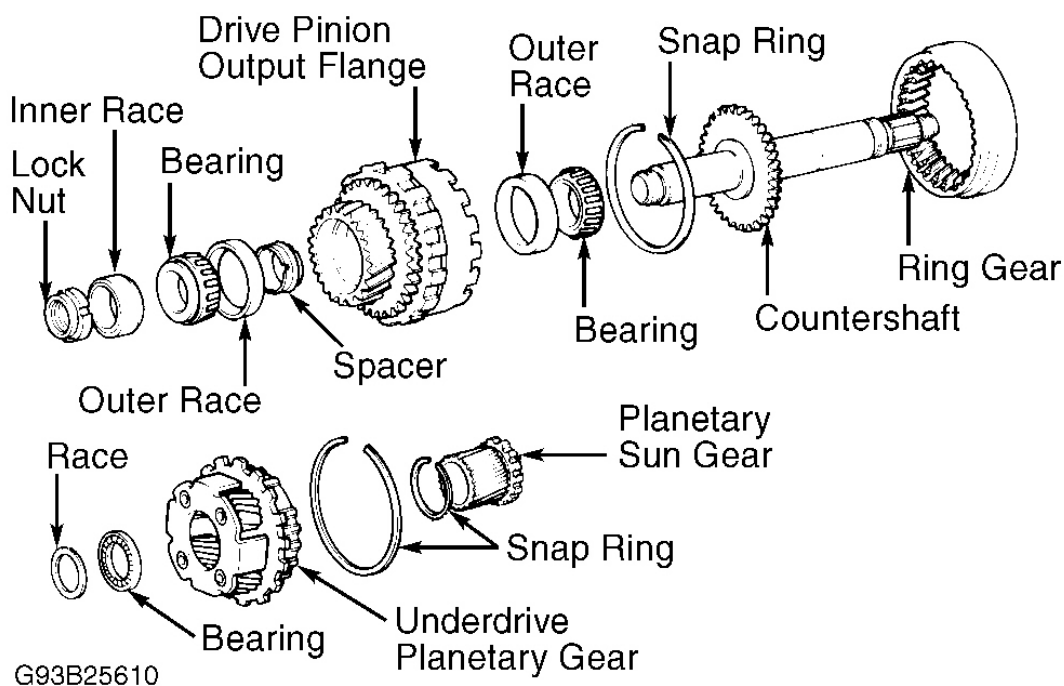

Fig. 37: Exploded View Of Countershaft Assembly
1. Remove planetary sun gear from countershaft. Remove snap ring from sun gear and countershaft assembly. Remove underdrive planetary gear, thrust bearing and race. See **Fig. 37**.
1. Using Bearing Installer (09351-32180) and Adapter (09351-32150), press bearing of thick inner race on countershaft. Install ring gear and snap ring to countershaft. Install bearing outer races to drive pinion. Using Adapters (09351-32090 and 09351-32180) and press, press thick bearing race into flange side of drive pinion. Using adapters, press thin bearing race on remaining side of drive pinion. See **Fig. 37**.
"H". See **Fig. 55**. Install underdrive planetary gear and snap ring. Install snap ring to sun gear. Install planetary sun gear to countershaft. See **Fig. 37**.